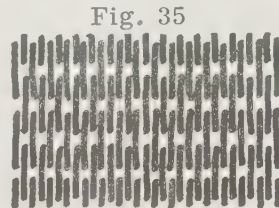

Fig. 35
3. WARP FACE The warp is sleyed very closely and covers the weft as in Fig. 35.